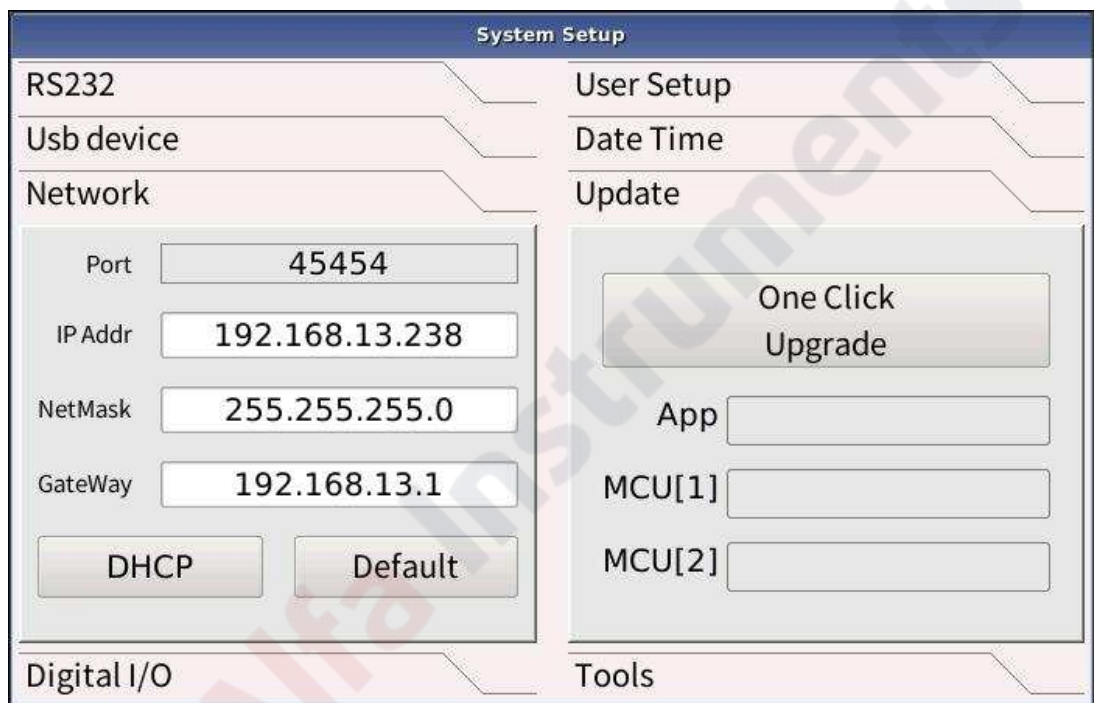

Figure 4-28 System Setup Page 3
**Operation:** (see Figure 4-28)
**Operation:** (See Figure 4-28) Touch screen and click on One Click Upgrade to upgrade with one click.